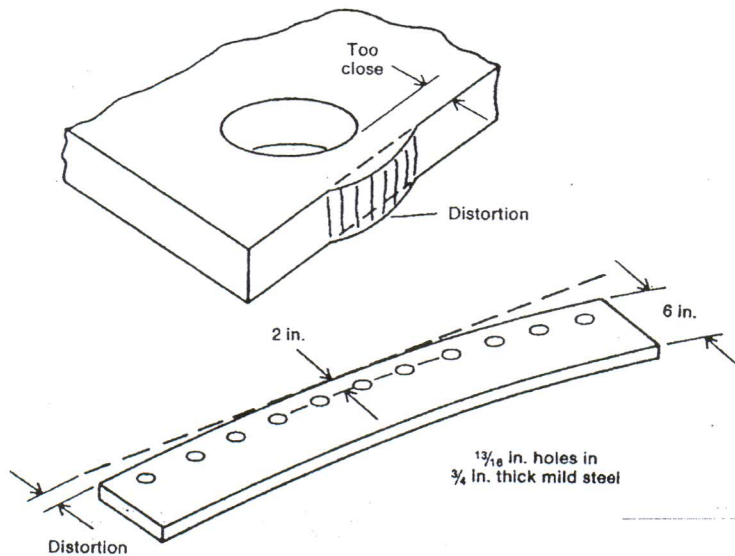

Figure 3 :Distortion resulting from off-center punching
- Another frequent problem that occurs on strip and bar stock is camber due to off-center punching. Figure 3 (Distortion resulting from off-center punching) shows the type of distortion that will result. The holes should be on-center where possible, and the bar should not be too narrow. Insufficient clearance will cause increased outward forces produces.